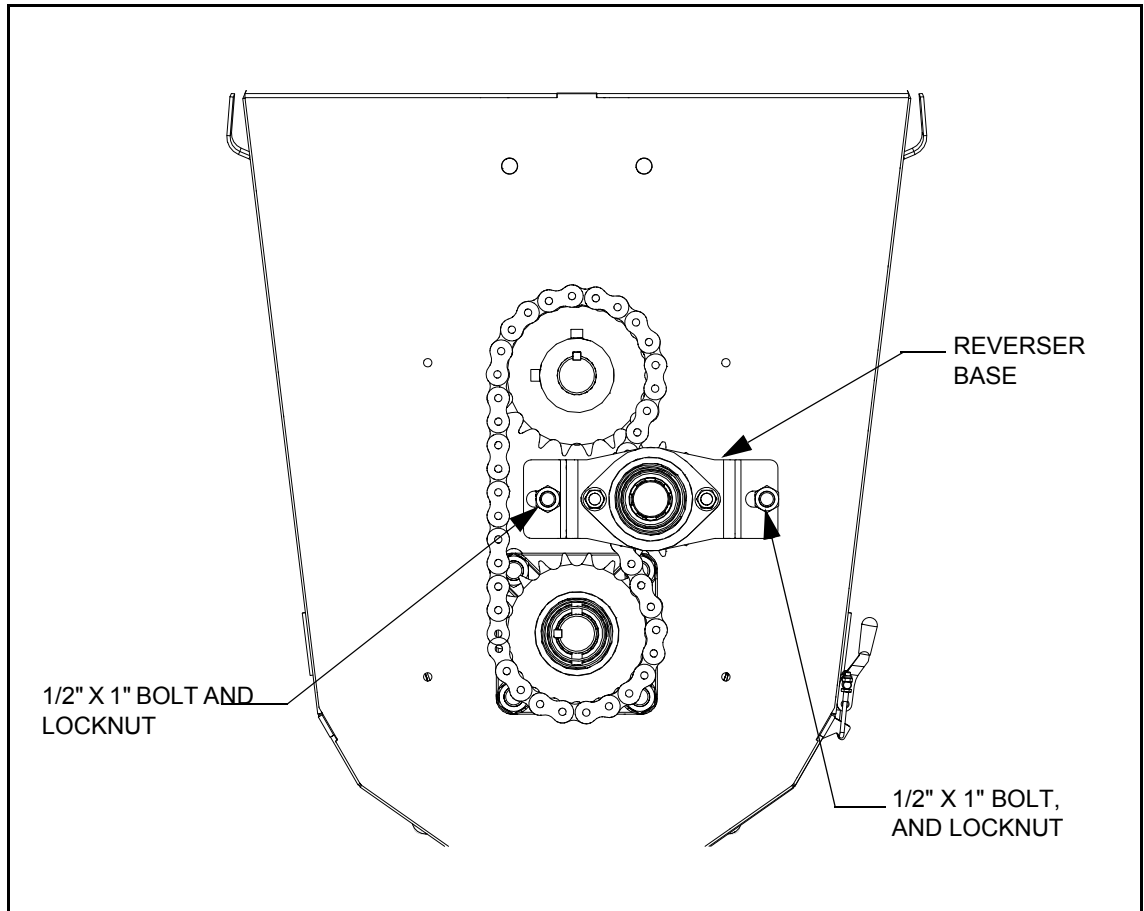

Figure 3 Fastening Reverser Base to the Boot
2. Install the reverser base with two 1/2" x 1" bolts and locknuts (see Figure 3). Do not tighten until step 5.